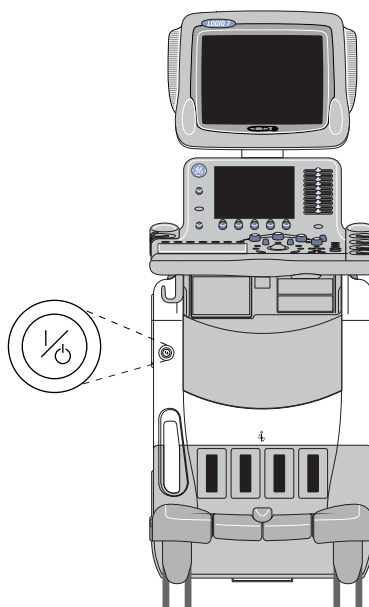

Figure 4-2 Power On/Off Standby Switch Location
- 1.) Press the ON/OFF key at the front of the System for about two (2) seconds. Refer to Figure 4-2 on page 4-3.